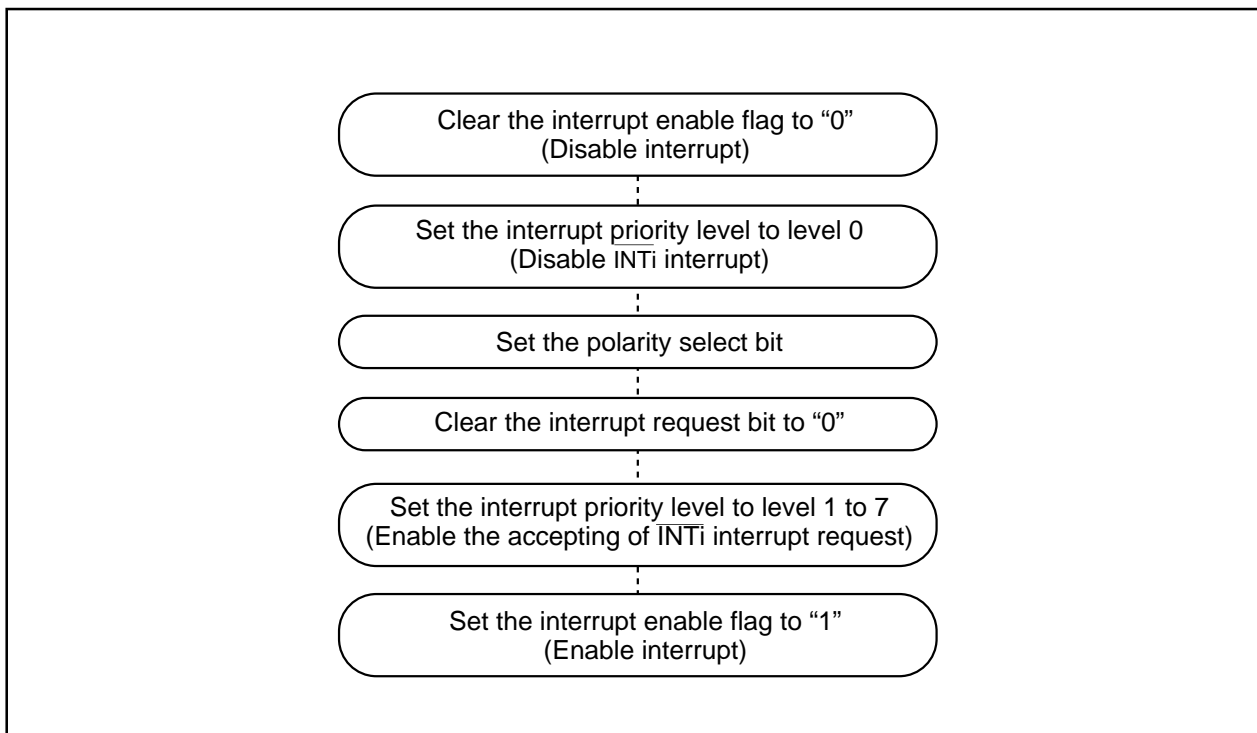

Figure 4.7.1. Switching condition of $\overline{\text{INT}}$ interrupt request
(2) Setting the stack pointer
(3) External interrupt
- When the polarity of the $\overline{\text{INT}}_0$ and $\overline{\text{INT}}_1$ pins is changed, the interrupt request bit is sometimes set to "1". After changing the polarity, set the interrupt request bit to "0". Figure 4.7.1 shows the procedure for changing the $\overline{\text{INT}}$ interrupt generate factor.